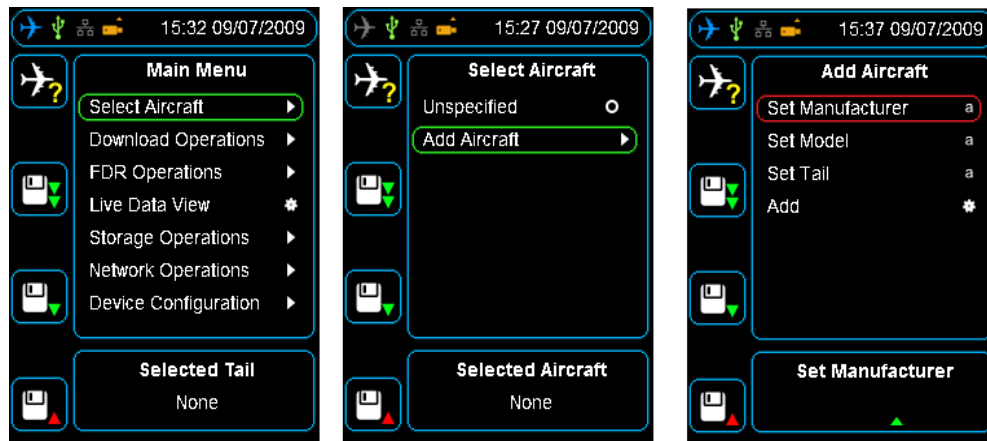

Figure 2.6 - Adding Additional Aircraft directly to the PI/2
1. In order to add the Manufacturer as shown in Figure 2.6 press the “**OK**” button so Set manufacturer is highlighted in RED and then press the top cursor  on the PI/2.